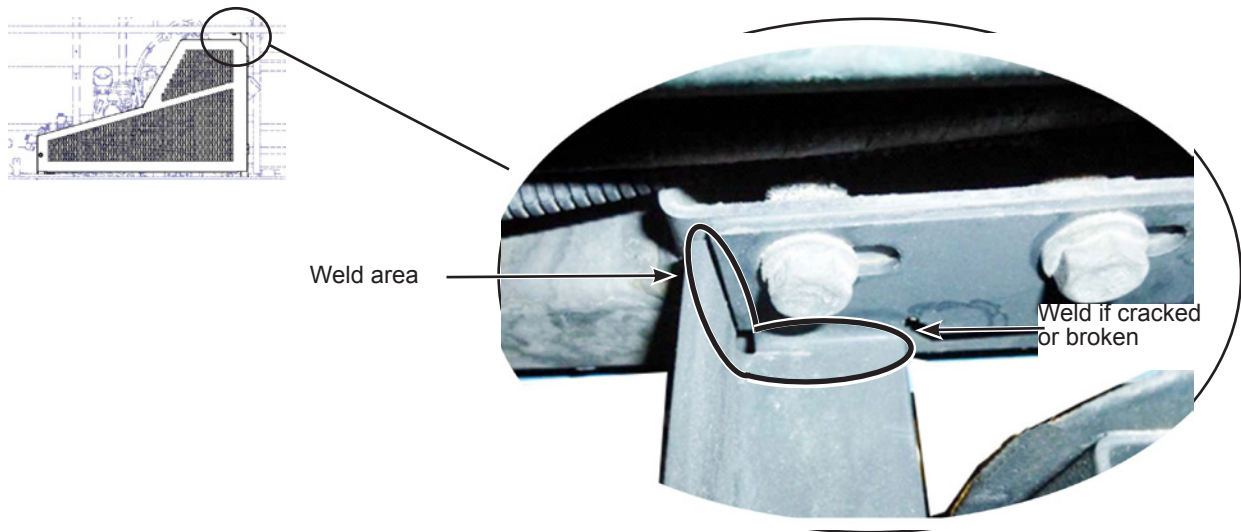

Figure 2 - Areas to be Reworked
1.4. Locate the two areas that need to be reworked. See Figure 2.
- 1.6. Weld the surfaces. See Figure 2.